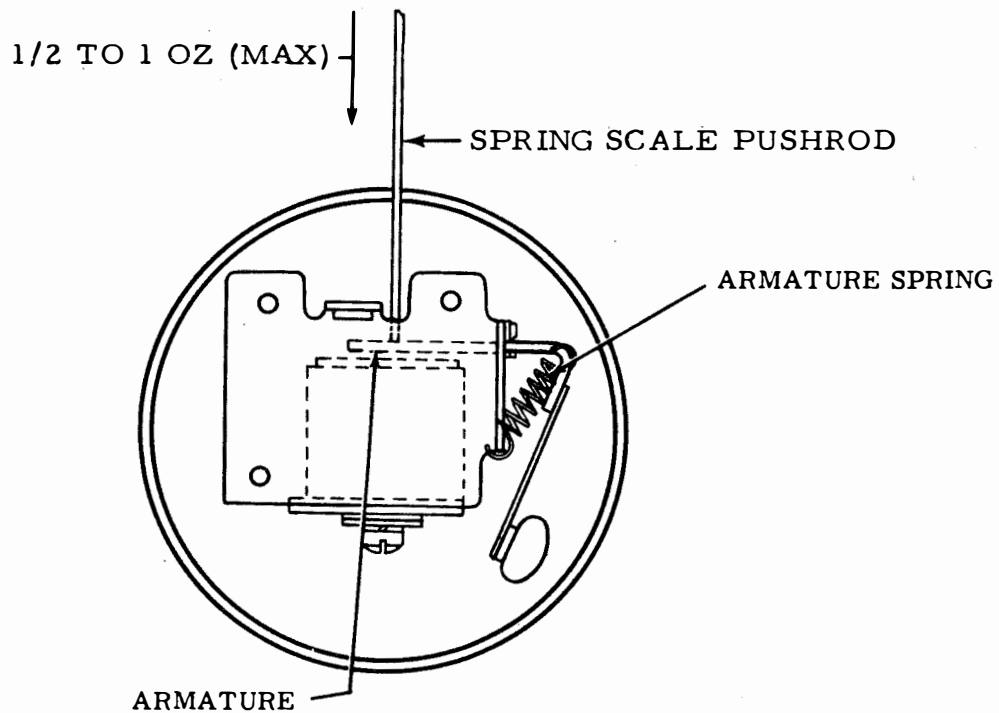

Figure 6-355. Cabinet Armature Spring Tension
(1) Refer to Figure 6-355.
(2) Apply spring scale pushrod against armature and measure force required to push armature against core, vertically. This should be 1/2 to 1 ounce maximum.
(3) If requirement is not met, replace spring.